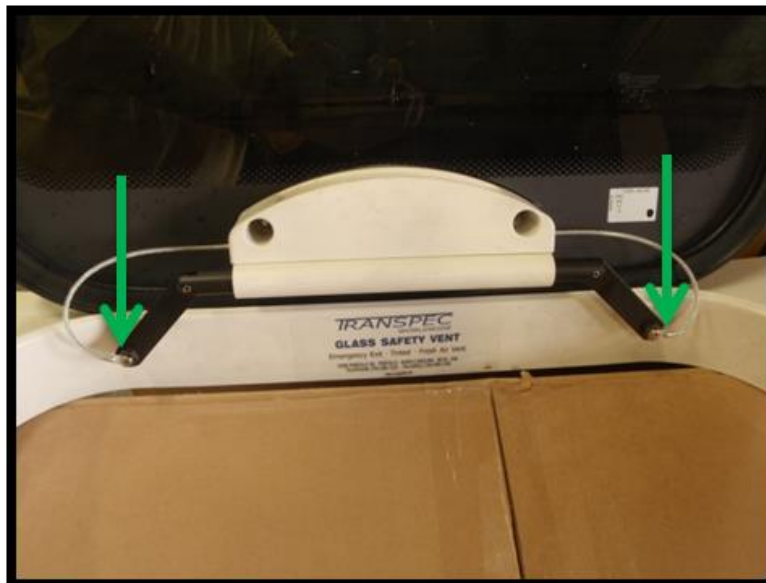

Figure 11: Remove the two Phillips head screws (green arrows, do not discard).
2. . With a Phillips head screw driver, remove the two screws holding the retention cables identified in Figure 11.